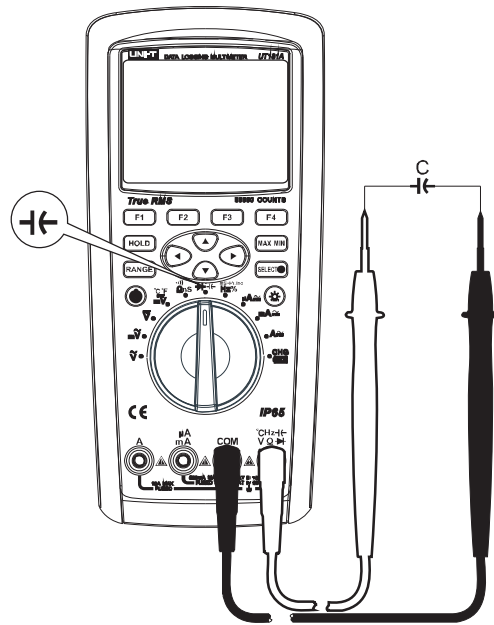

Figure 9
- 2) Set the rotary switch to the measurement $\rightarrow\leftarrow$, press the key SELECT to select capacitance measurement. Connect the test leads to both ends of the measured capacitance as shown in Figure 9.